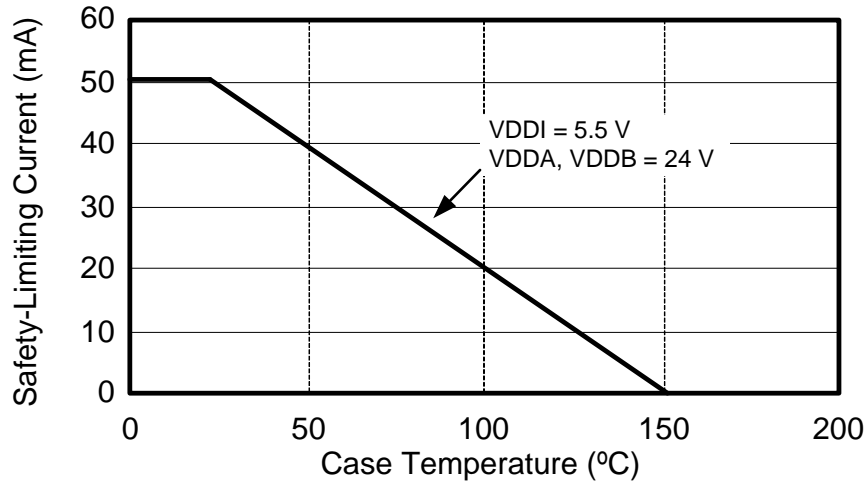

Figure 6. WB SOIC-16, NB SOIC-16, 14 LD LGA Thermal Derating Curve, Dependence of Safety Limiting Values with Case Temperature per DIN EN 60747-5-2
1. Maximum value allowed in the event of a failure. Refer to the thermal derating curve in Figure 6.